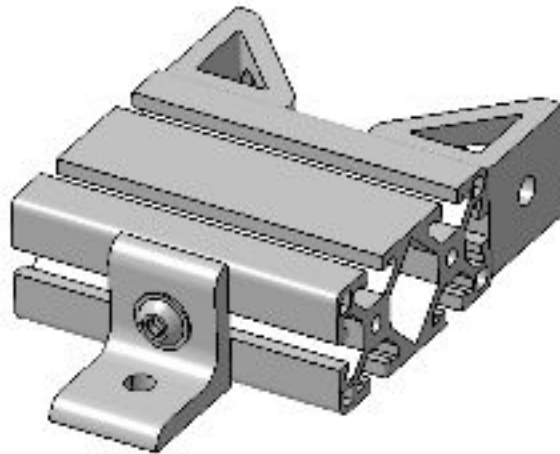

Fig. 4.6: Two gussets (#YKPV) and one L-bracket (#KPHT) attached to the T-slotted double frame 4" (#WHXZ)
- ❑ Fix on one short side of the T-slotted double beam 4" (#WHXZ) two gusset brackets (#YKPV) with button head 5/16"-18 screws (#KEDB) and T-nut fasteners (#YREC), shown in Fig. 4.6.
- ❑ On another single side, fix an L-bracket (#KPHT) at the middle of the T-slotted double beam 4" (#WHXZ) with the button head 5/16"-18 screws (#KEDB) and T-nut fasteners (#YREC), as shown in Fig. 4.6.
- ❑ Make the second assembly, as shown in Fig. 4.6, with the supplied components.